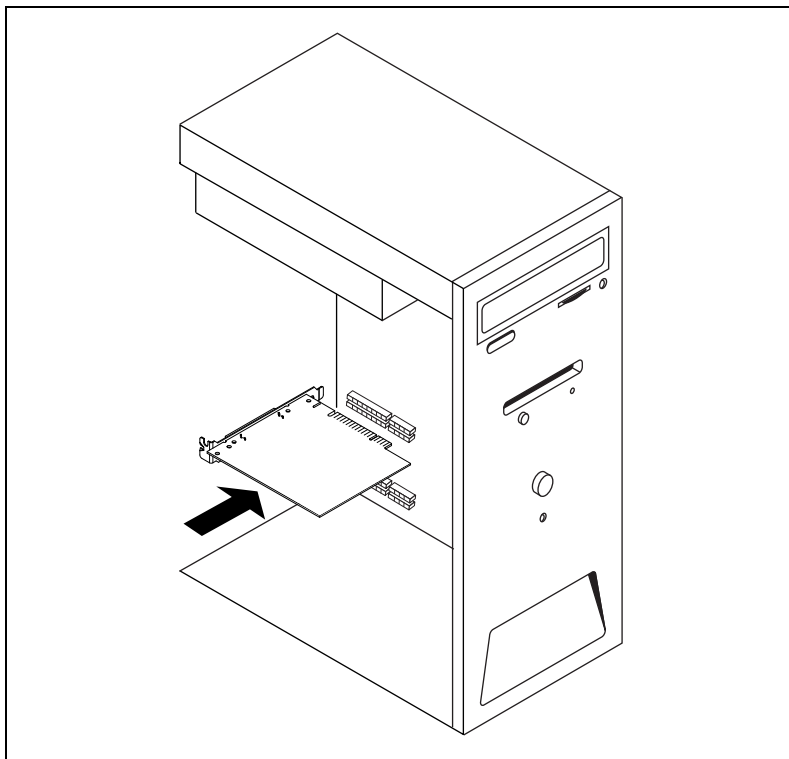

Figure 1-1. Installing the AT-GPIB/TNT (PnP)
5. Insert the GPIB board into the slot with the GPIB connector sticking out of the opening on the back panel, as shown in Figure 1-1. It might be a tight fit, but do not force the board into place.